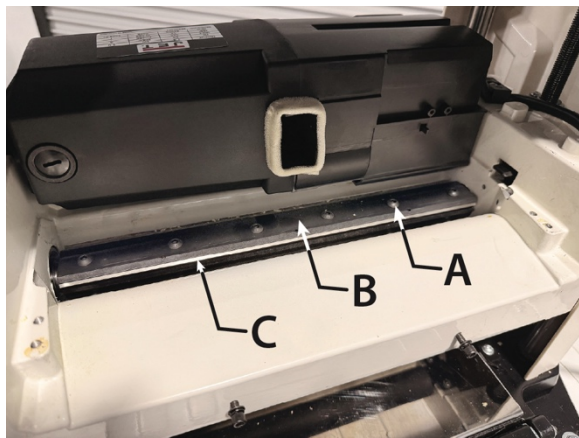

Figure 8-8
1. Using the supplied hex wrench, loosen and remove all screws of the planer knife press strip (A, Figure 8-8).
2. Remove the planer knife press strip (B, Figure 8-8).
3. Carefully remove the knife (C, Figure 8-8) from the cutterhead.